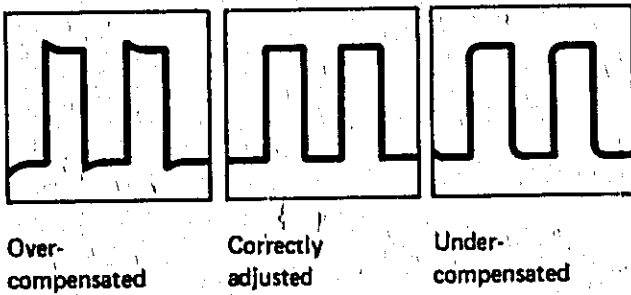

Figure 3-2. Probe Compensation.
- c) Adjust the probe for the correct square wave display shown in Figure 3-2.